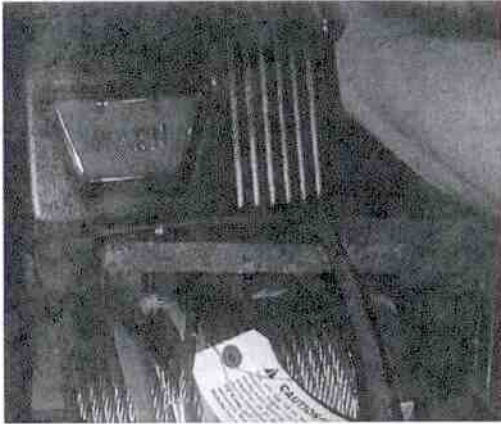

Figure 1
2. Remove the upper housing by using two wooden 2 x 4s, approximately 12 inches long. Stand one on edge by the drum support and pry up on motor end using the other 2 x 4. This should break the RTV seal loose. (see Figure 1)